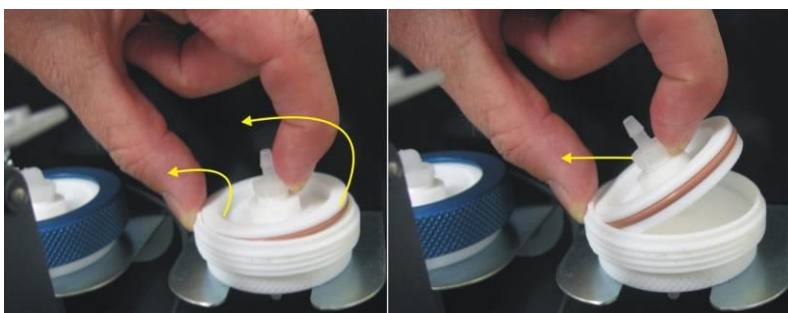

Figure 52 – Removing the Plunger
4. Remove the filter plunger from the casing, place finger on tubing connector and pull to the side (refer to Figure 52).